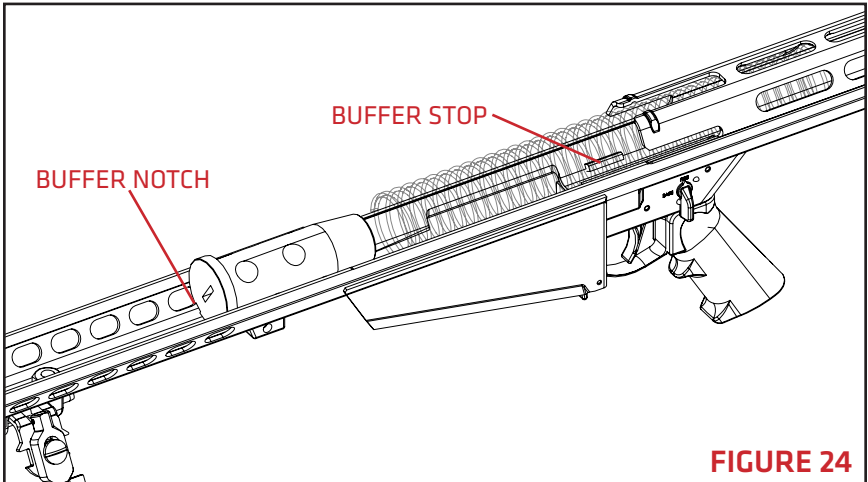

FIGURE 24
1. Place buffer sleeve and mainspring into the lower receiver and align the buffer notch with the welded buffer stop of the lower receiver. (FIGURE 24).